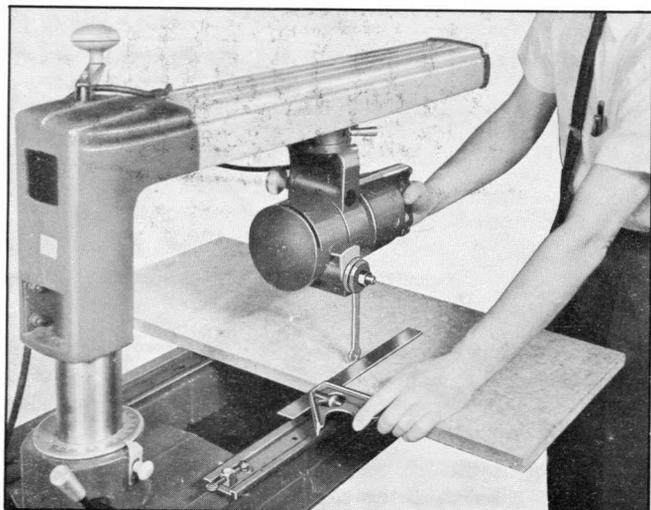

Fig. 10
3. Using a combination square as shown in Fig. 10, adjust the front table until the edge of wrench just touches the square as the Motor Unit is pulled back and forth.
2. Install the Table clamp assemblies in the key-holes as shown in Fig. 10, and lock Rear Table and Fence in place.